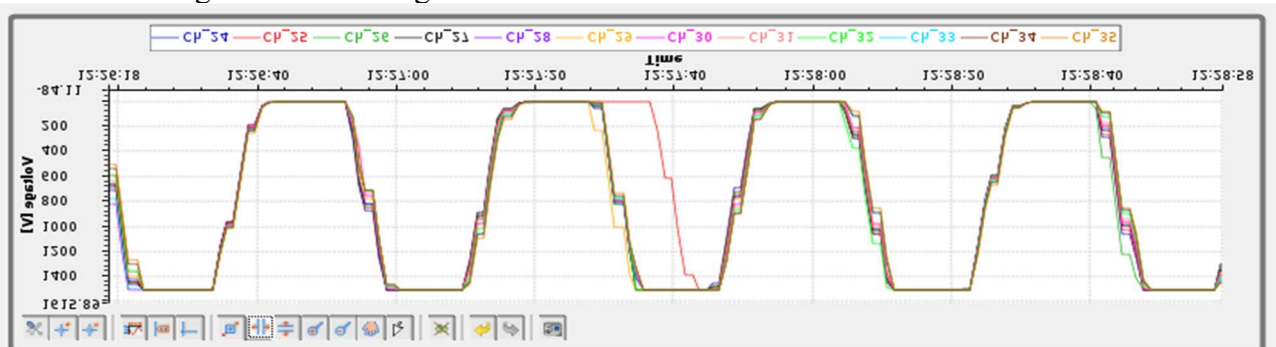

Fig.17 – HV CAEN – Voltage Ramp Test CSS BOY screen shows latency incident for channel 25.
- Channel 25 had same misbehavior as mentioned in previous test; channel 25 presented one latency incident during this trial. See fig.17